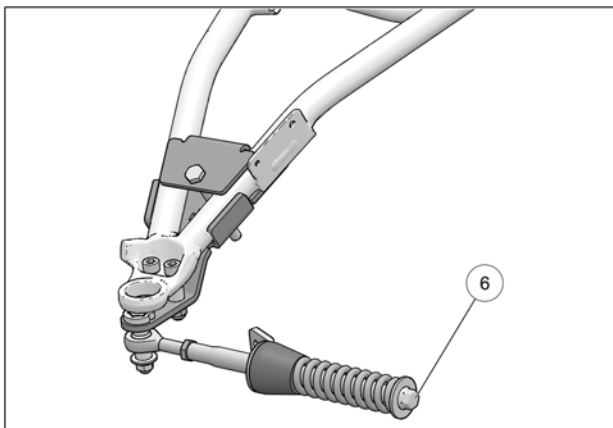

Fig. 23
13. Verify that spring assembly bolt (6) is tightened to the recommended torque specification: 75 N•m [55 lb•ft]. Refer to Fig. 23